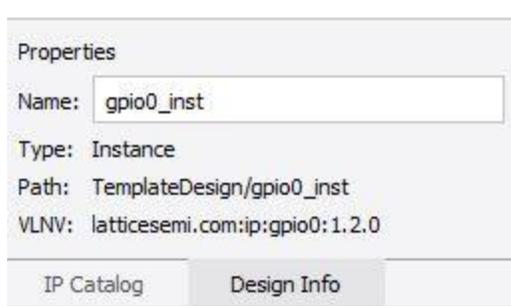

Figure 2.31. Object Properties
- Select the object from the List view of Design Info. Information of the selected object is shown in the Properties area (Figure 2.31).